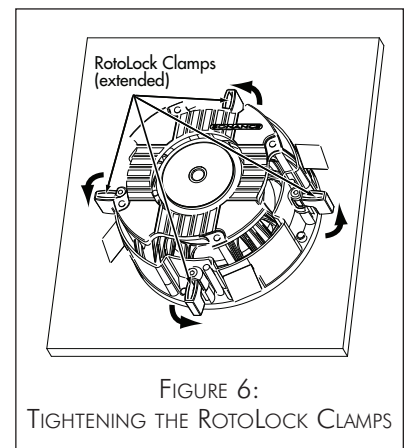

FIGURE 6:
5. Tighten the four screws on the front of the speaker baffle. The RotoLock clamps will automatically rotate into position and begin clamping the speaker (*Figure 6*).